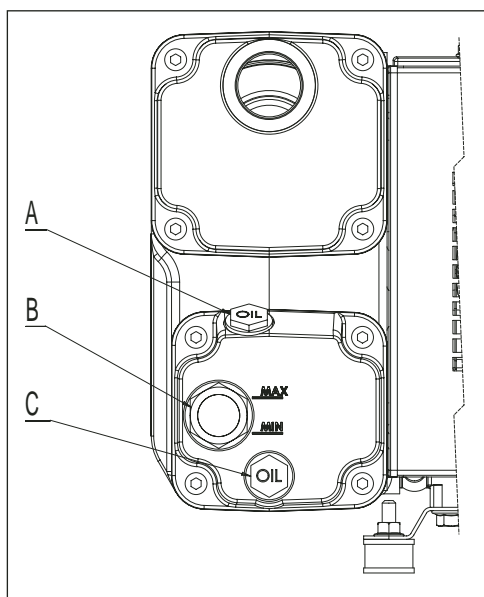

Fig.6
Eseguire il primo riempimento attraverso il tappo (A) sino alla metà dell'indicatore di livello (B) e richiudere il tappo (A) (Fig.6).
Carry out the first filling up through the plug (A) up to the half of the sight glass (B) and close the plug (A) (Fig.6).
Please refer to figure 6. Unscrew the oil filling plug (A) and the discharge plug (C) only after having placed below the pump tank a suitable container (proper size and shape) for collecting the total quantity of oil. Once the oil in tank has completely been discharged, re-assemble both the plugs ("A" and "C") and let the pump run under vacuum for about one minute, so that the lubricating/cooling line get emptied and any oil residual keeps inside the pump. Then remove the plugs and discharge the rest of oil.